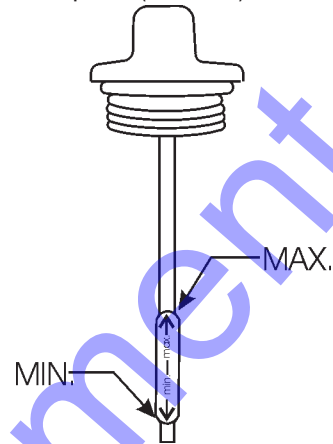

Figure 6. Engine Oil Dipstick (Oil Level)
4. If the oil level is low (Figure 6), fill to the edge of the oil filler hole with the recommended oil type (Table 5). Maximum oil capacity is 1.6 quarts (1.5 liters).